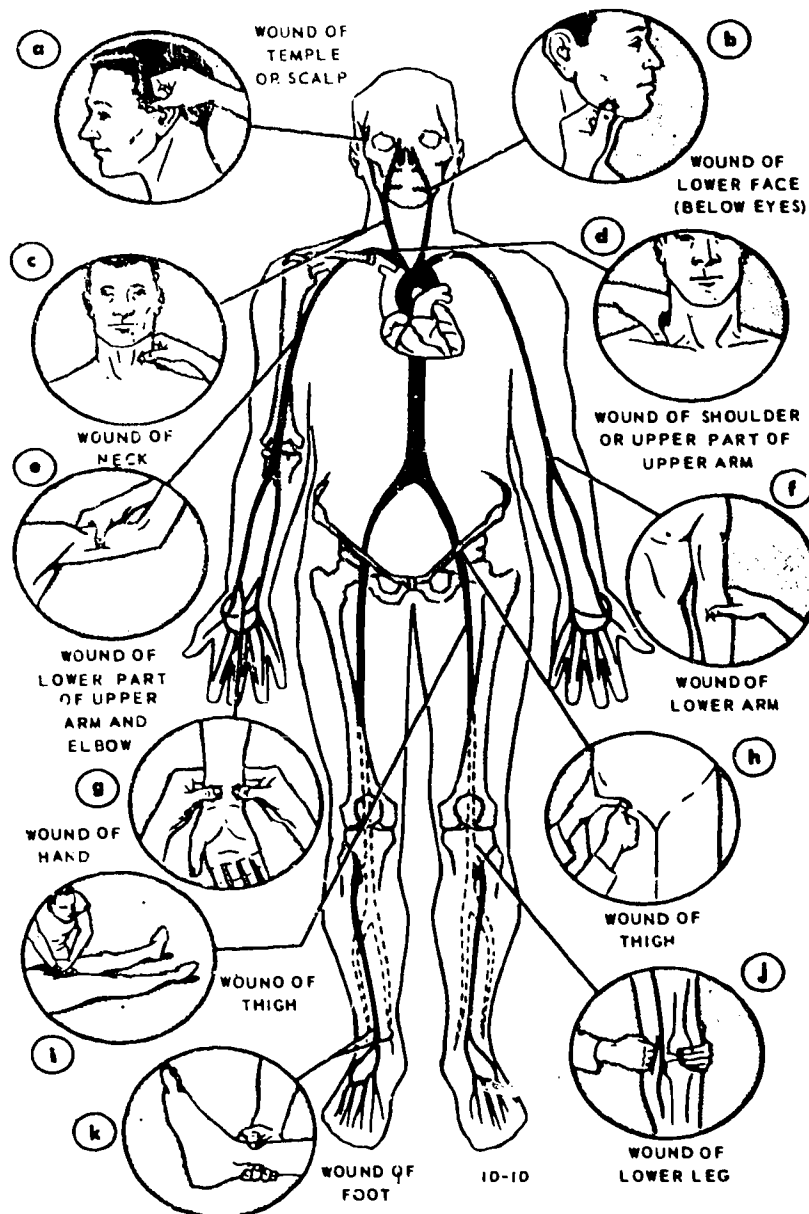

Figure 1-5. Pressure points.
**Pressure points.** In addition to applying pressure directly on the wound and elevating the wound, you can apply pressure at one of several pressure points. Figure 1-5 shows the location of these points. Place your finger lightly where you think the pressure point is. If you feel a pulse beat similar to a throbbing, you are right on it. Then, use the heel of your hand or fingertips to press hard. Continue this pressure until any blood gushing from the wound ceases. If you release pressure and bleeding starts again, reapply the pressure. One warning about pressure points: in cases of head wounds, where pressure points are commonly used, be sure NOT to press on both neck pressure points at the same time. To do so will block the flow of blood to the victim's brain and eventually result in death.